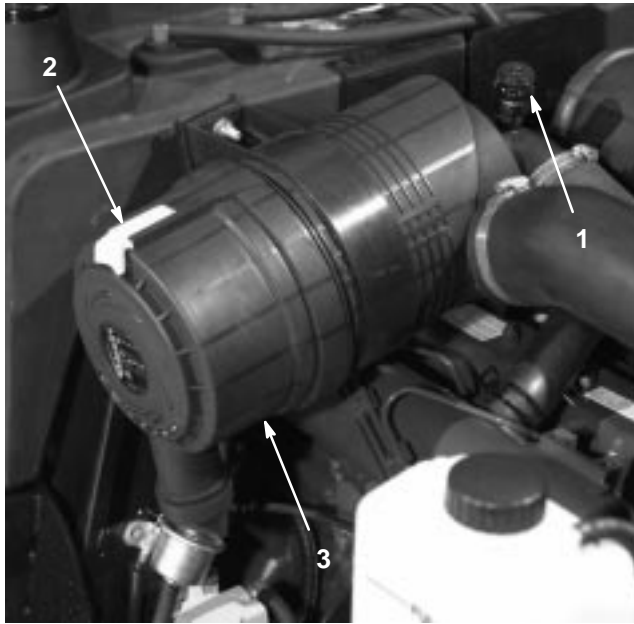

Figure 44
Service the air cleaner filters when the air cleaner indicator (Fig. 44) shows red or every 400 hours (more frequently in extremely dusty or dirty conditions). Do not over-service the air filter.
1. Pull the latch outward and rotate the air cleaner cover counterclockwise. Remove the cover from the body (Fig. 44). Clean the inside of the air cleaner cover.
8. Reset the indicator (Fig. 44) if it shows red.